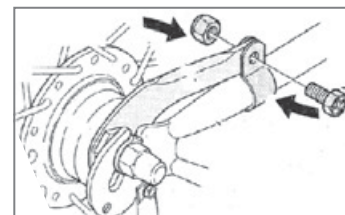

Fig. 68. Brake tightening
5. Tighten the brake, Fig. 68.